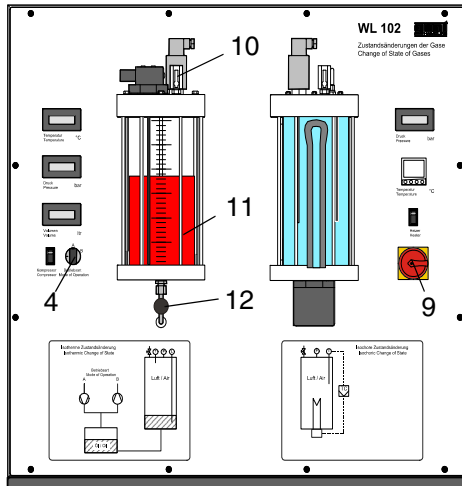

Fig. 5.1 Settings for the compression experiment
- Open the air discharge valve (see Fig. 5.1, page 15) on the lid of the cylinder.
- Turn on the compressor using the switch (3) until the oil level is at *3L*.
- Using the needle valve (see Fig. 5.1, page 15), set the filling speed.
- Turn on the compressor using the switch (3) until the oil level is at *0L*.